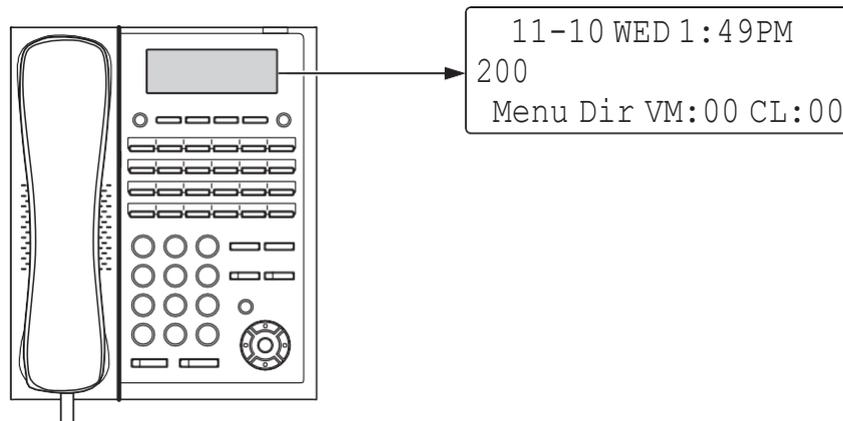

Figure 3-3 Display Indication (Idle) (12TXH/24TXH-B1)
- When the system has completed reloading the software, the RUN LED is flashing green on the CPU board, and the connected Multiline Telephone's display will show the Time & Date and Extension Number as Figure 3-3 Display Indication \(Idle\).